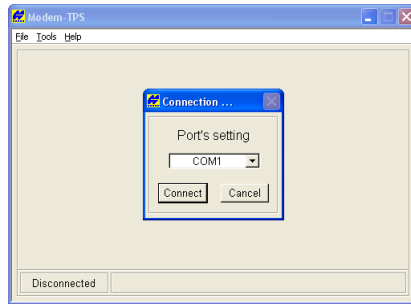

Figure 3-7. Connect to Modem-TPS
2. Open Modem-TPS and select the COM Port the receiver is connected to (Figure 3-7 on page 3-14). Click **Connect**.